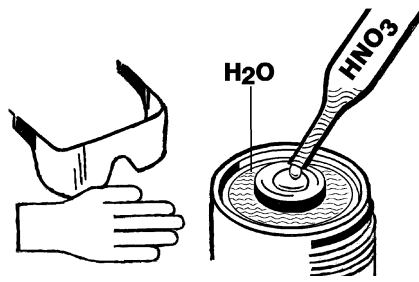

FIGURE 4-10
2. Place a few drops of nitric acid onto the center gold cathode -- just enough to cover only the cathode and its guard ring (Figure 4-10). **Do not get any nitric acid on the anode.** Wait about 15 seconds and then rinse the gold cathode with water.